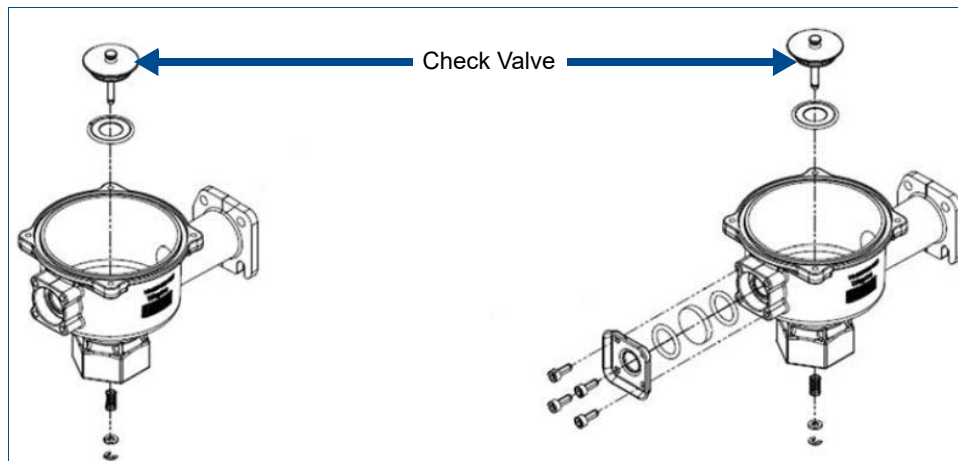

Figure D-1 CPU Check Valves
7. CPUs on Helix dispensers come factory fit with a check valve in the filter pot (see Figure D-1 below). No additional check valves are necessary.